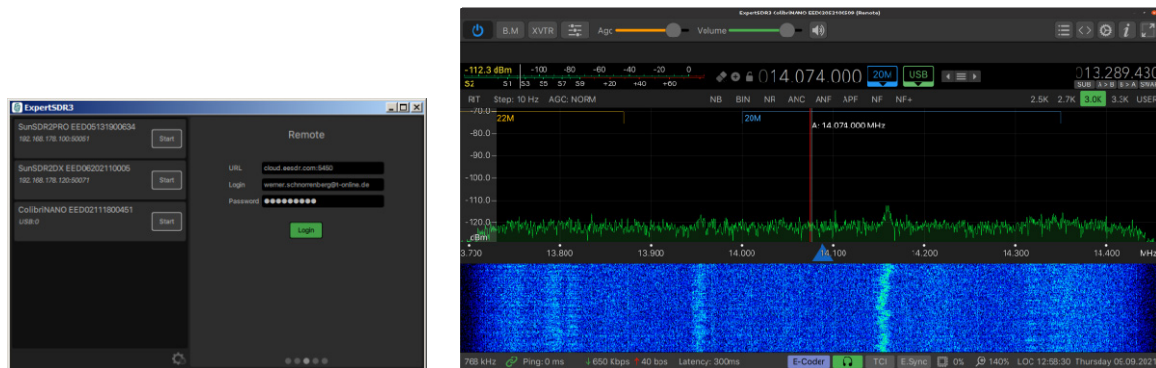

Figure 14: Radio opened via the Software ExpertSDR3_x64
b) After starting the software ExpertSDR3 on the client PC, a menu also opens in which the URL, email address and password of the cloud are entered (Fig. 14, left). After clicking on "Login", all available radios appear again, which can be started after clicking on "Start".